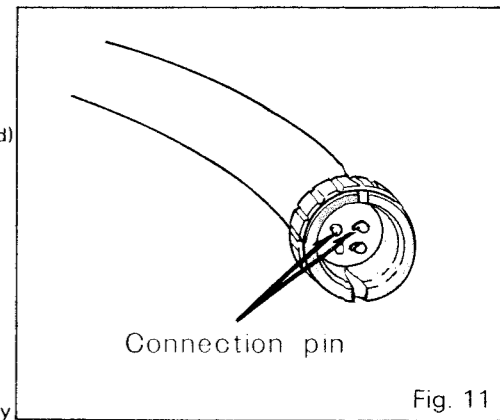

Fig. 11
- Yes: Remove the headshell, touch the upper two pins at the end of the arm with a metal screwdriver and listen for the speaker to produce a humming noise. (Fig. 11)